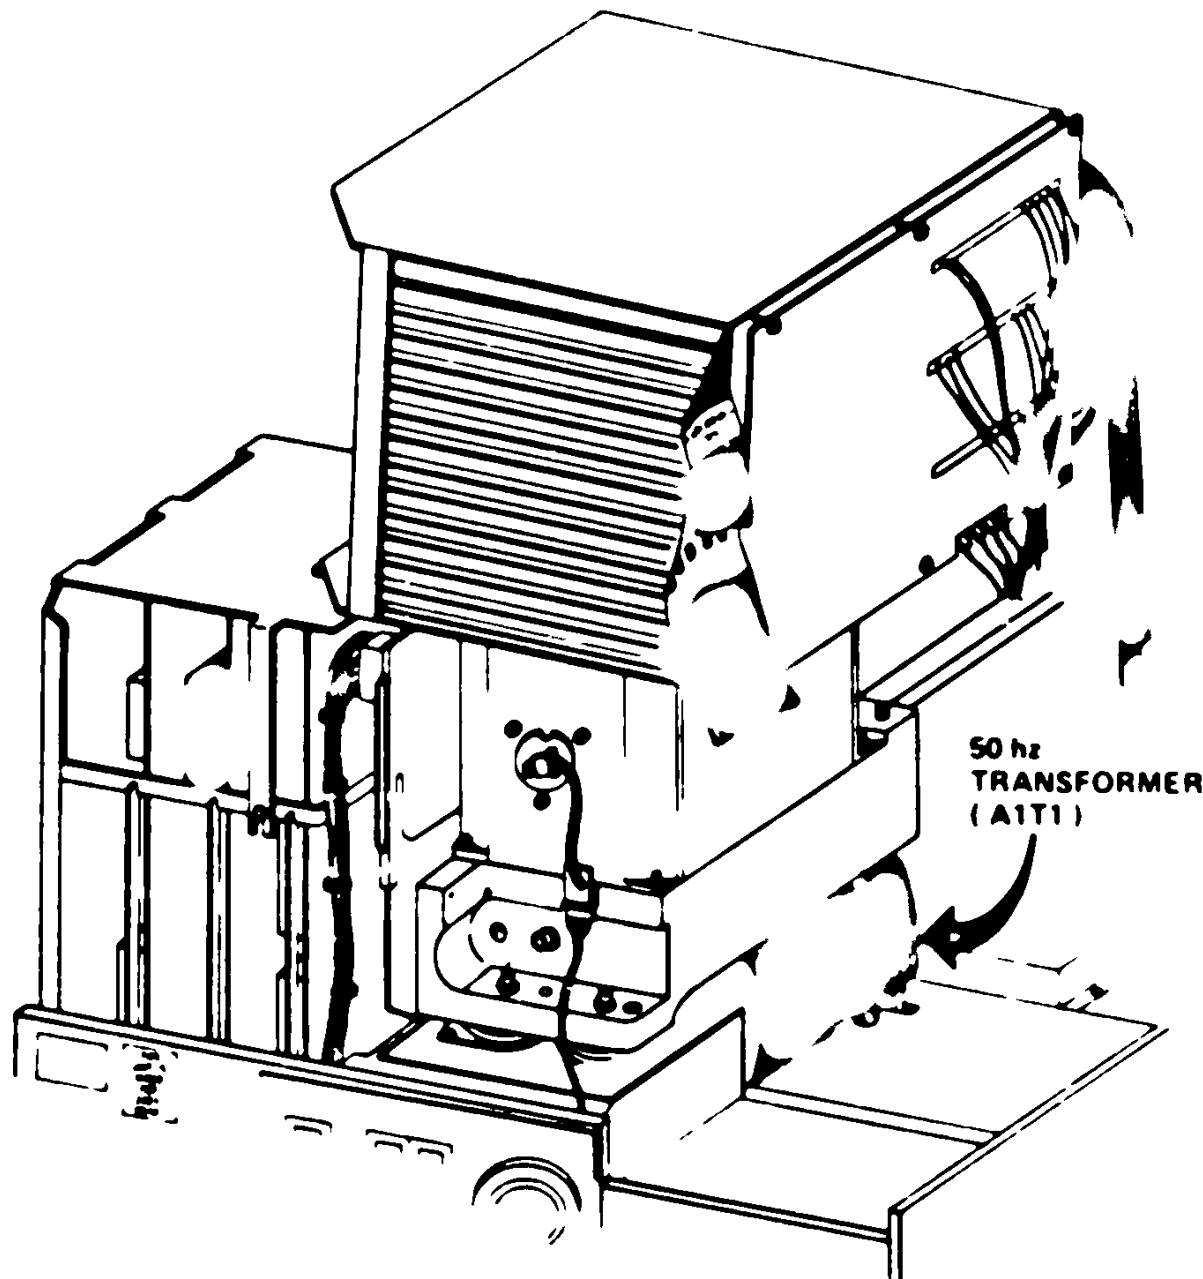

Fig 2
- 5) Locate the main 50hz transformer (A1T1) as shown in figure 2.